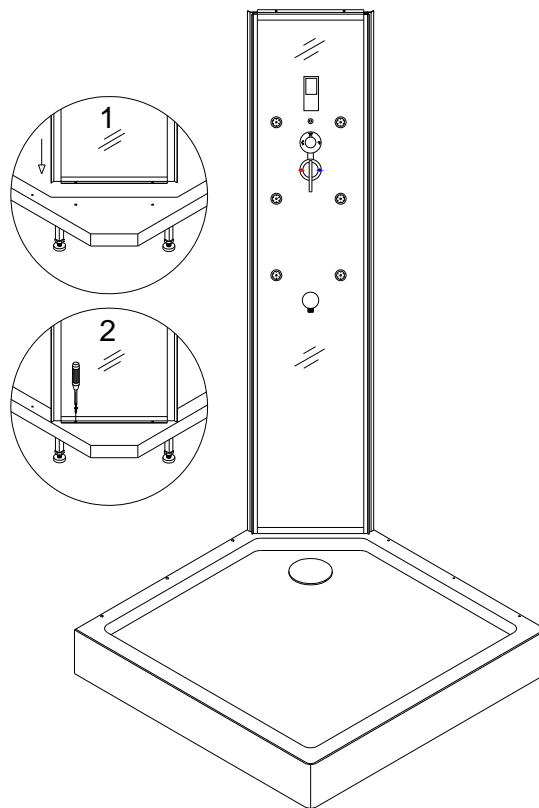

Fig 3
6. Move the **Tray (5)** out; put the **Control panel (1)** onto the tray; then secure them with **Round head screws ST4.2x25 (12)**. See Fig 3 for details.